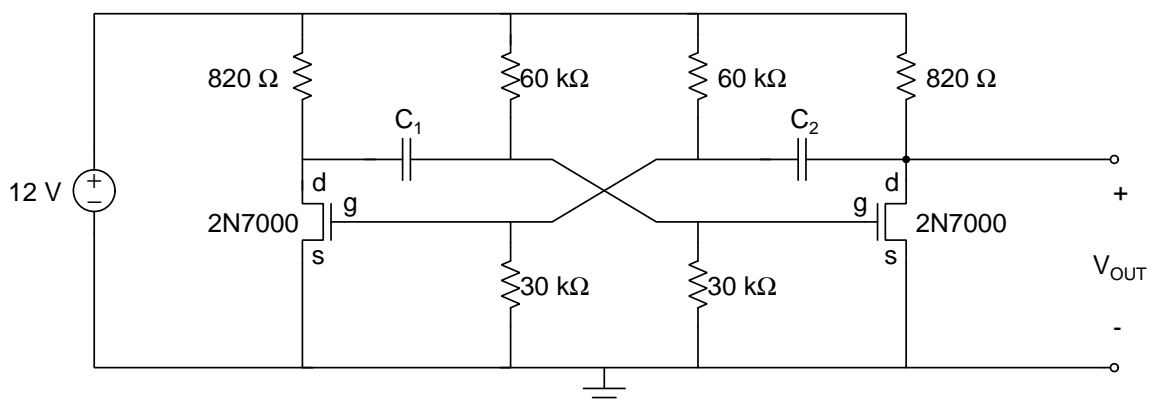

Figure 2: Astable multivibrator circuit of Figure 1 with 2N7000 transistors used as voltage-controlled switches.
2. The NMOS transistor can function as a voltage-controlled switch. In an NMOS transistor, current flows from the drain (D) terminal to the source (S) terminal when the gate (G) to source (S) voltage (V_{GS}) is greater than the threshold voltage (V_t) of the transistor. No current flows from the D terminal to the S terminal when V_{GS} is less than V_t .
- Simulate the operation of the astable multivibrator circuit using the 2N7000 NMOS transistors to implement the voltage-controlled switches, as shown in **Figure 2**. In NGSpice, use the **2N7000_mod** symbol for the transistor model. This transistor has a nominal $V_t=1.5 \text{ V}$.
3. Build the full astable multivibrator circuit shown in Figure 2. This circuit should oscillate when power is supplied.